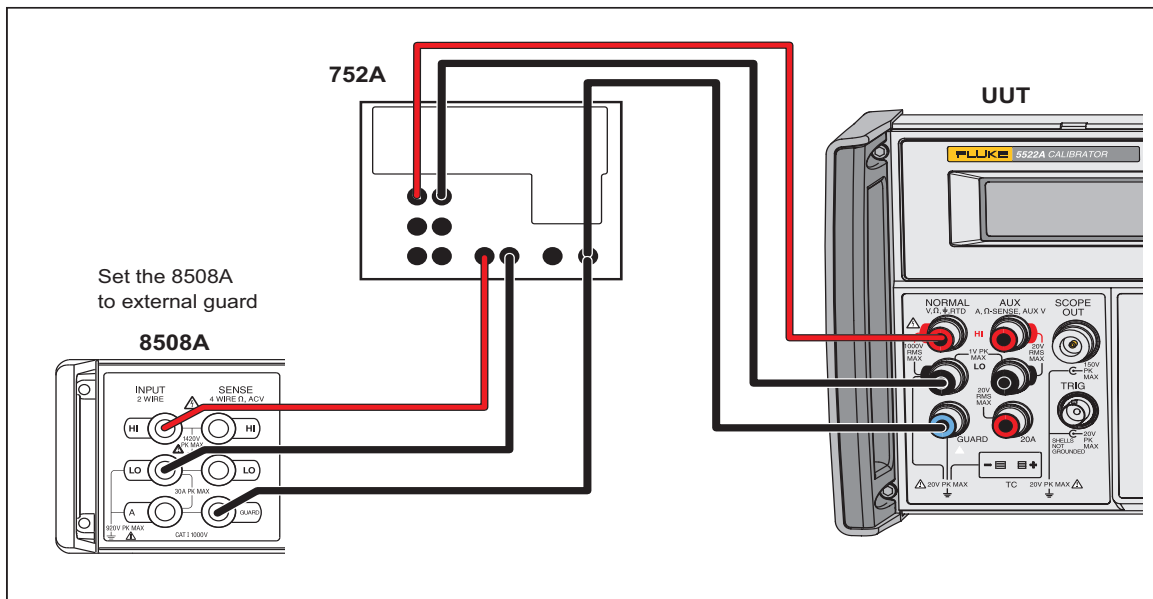

Figure 3-2. DC Volts 30 V and Above Calibration Connections
2. Connect the Calibrator (unit under test), 752A, and 8508A as in Figure 3-2. Make sure that the ground to guard strap on the 752A is not connected.